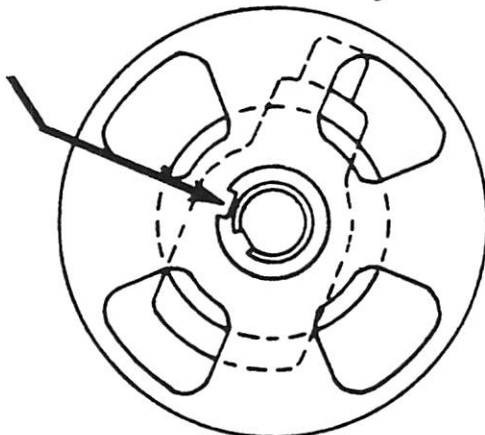

Figure 7. Installing Rotor Disc in Distributor Housing
2. Place rotor disc into slot of distributor housing. Observe Figure 7 for proper relationship of disc to rotor.